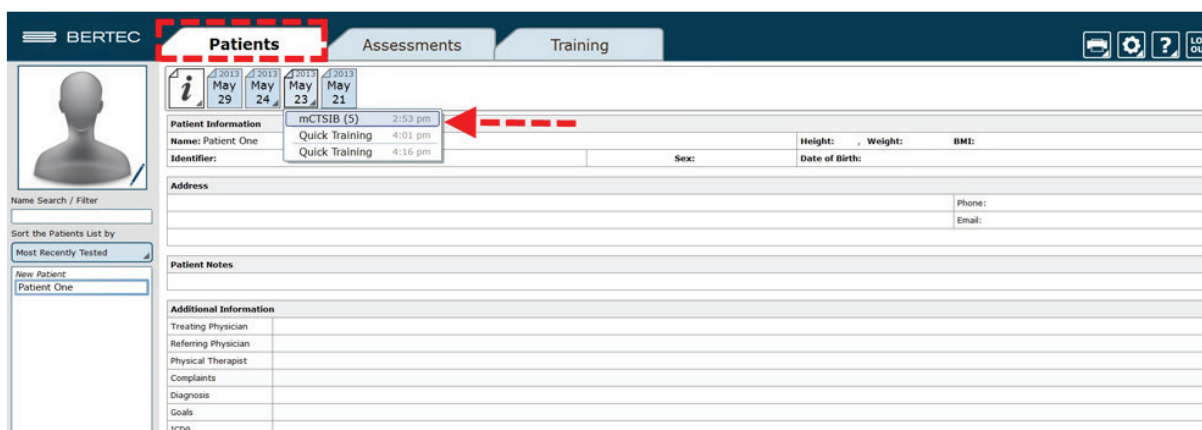

Figure 26: Return to Patient Screen to View Progress Reports.
4. Progress reports can be viewed by returning to the *Patients* tab, shown in Figure 26.